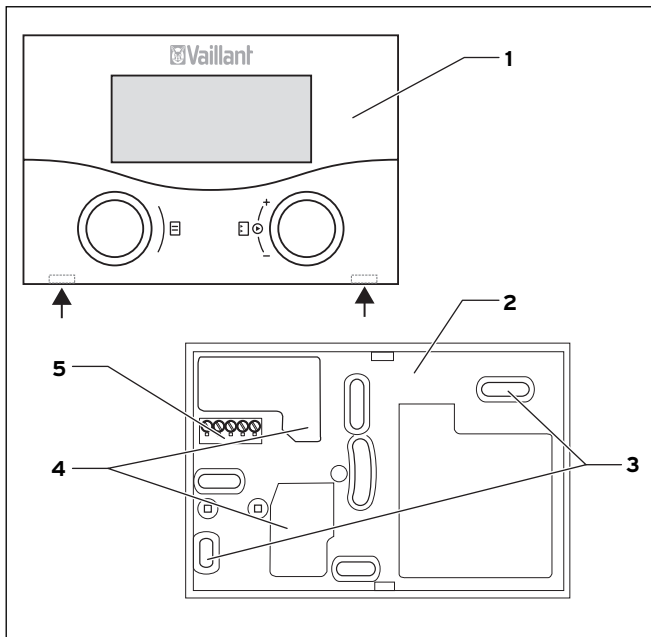

Fig. 4.1 Fitting the external sensor 430
- ⇒ Carefully press the controller (without wall plinth, see Fig. 4.1) with the pin rail into the plug connector on the heating unit.
This can be done by pushing a screwdriver into the two retaining straps (see Fig. 4.1 arrows).